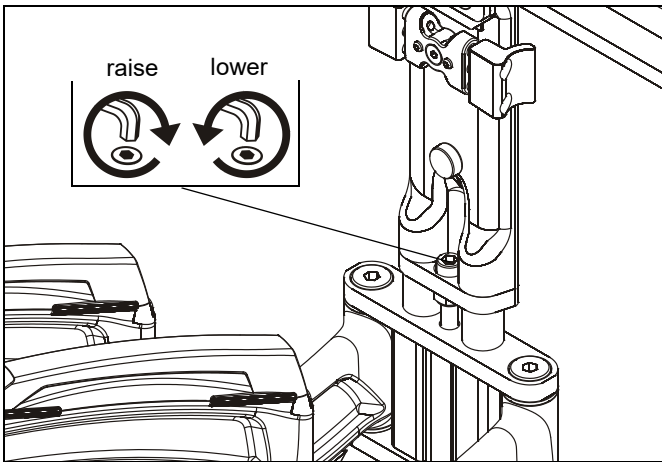

Figure 30
- Use 1/4" hex key (BB) to adjust height adjustment screw to raise or lower mount to desired height. Turn clockwise to raise mount and counter-clockwise to lower mount. (See Figure 30)